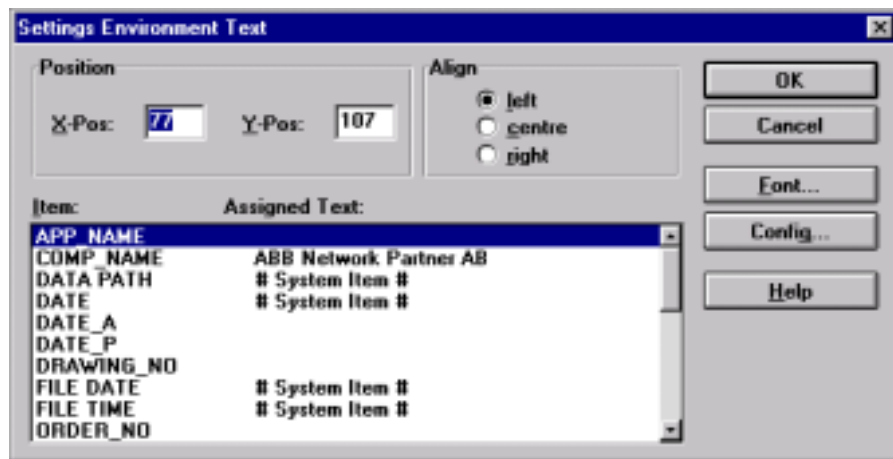

Fig. 52 Settings Environment Text dialog box.
- 1 Select the button <Config...> and the Environment Setting dialog box in Fig. 52 appears.